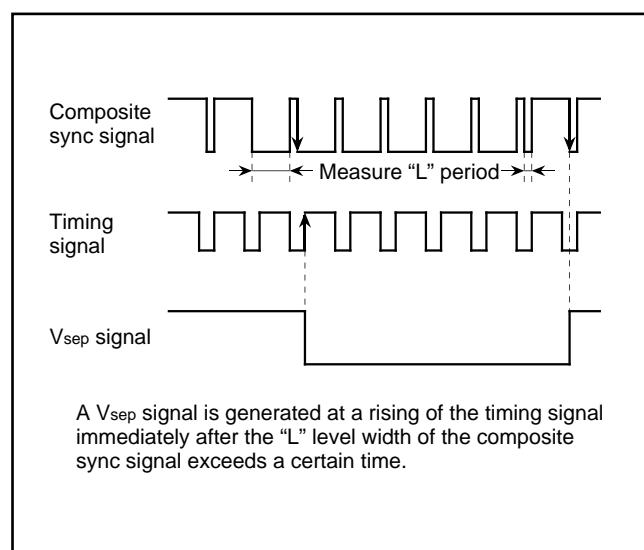

Fig. 22. Vsep generating timing (method 2)
- Method 2 The "L" level width of the composite sync signal is measured. If this width exceeds a certain time, it is detected whether a falling of the composite sync signal exists or not in the "L" level period of the timing signal immediately after this "L" level. If a falling exists, a Vsep signal is generated in synchronization with the rising of the timing signal (refer to Figure 22).
Figure 22 shows a Vsep generating timing. The timing signal shown in the figure is generated from the reference clock which the timing generating circuit outputs.